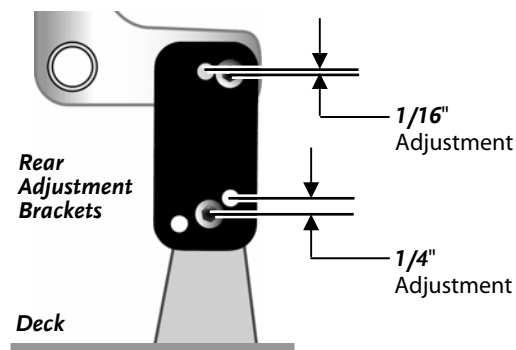

Figure 19
2. Using a 3/16" Allen Wrench and a 1/2" Wrench, adjust the Deck from front to rear as needed by moving the top and/or the bottom Bolt to a different hole in the Rear Adjustment Bracket (Figure 19).